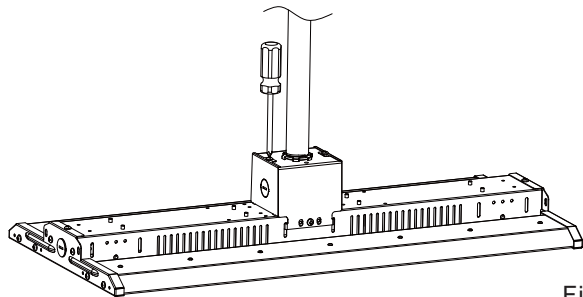

Figure4
- Step4 Lock side brackets with screw driver (Figure 4).